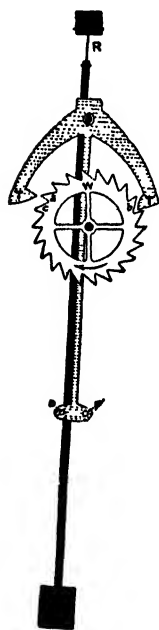

FIG. 218.—How the pendulum regulates a clock.
The pendulum of a clock is usually hung on a very thin ribbon of spring steel (R). As it swings back and forward, it bears against two pins P and P'. The crutch (shaded in Fig. 218) which is pivoted at the top therefore swings backwards and forwards with the pendulum. The crutch carries two pallets, T, T', which engage with the teeth of a ratchet wheel W. This wheel is geared to the train of wheels by which the weights drive the hands. *The hands cannot move unless the ratchet wheel moves too. In*
Fig. 218 the pendulum is not quite yet at the left hand end of its swing. The pallet T has just released the tooth *a*; the drive of the clock makes the wheel fly on until the tooth *b* strikes against the pallet T'. The pendulum finishes its stroke and so pushes *b* back a little in an anti-clockwise direction. This can often be seen in old clocks: in these the second hands visibly recoil at the end of each pendulum swing. The pendulum now starts back to the right. The tooth *b* as it goes back to the position from which it recoiled gives the pendulum a push and it is this push which provides the power that keeps it swinging. The pendulum now travels over to the right and just as tooth *b* has almost escaped from pallet T', pallet T comes in and engages tooth C. This will not be released again till the pendulum gets back to the left hand end of its swing. It is clear now that the escapement wheel can move only one tooth for each double journey of the pendulum. If the pendulum is regulated, as is usual, so that the double swing takes one second, the escapement wheel, which has 60 teeth, will get round once in a minute. (Fig. 218 shows only 30 teeth—for simplicity.) In this case, the escapement wheel may be attached directly to the second hand, the other gears being arranged so that the minute hand goes sixty times more slowly, and the hour hand twelve times slower still.